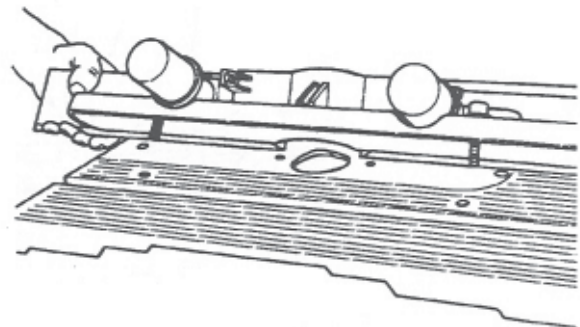
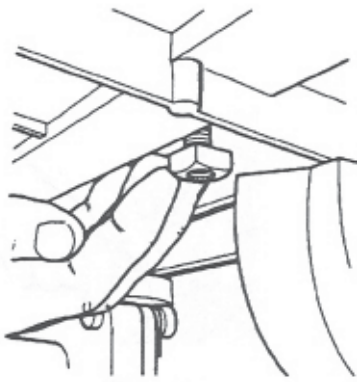

Figure D-55
Figure D-56
1. Install a shaper fence on the worktable according to the instructions which came with it. The Mark 7 shaper fence is being installed in Figure D-55, and it is being secured under the worktable by a square nut in Figure D-56.